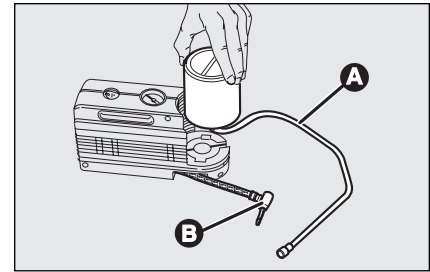

fig. 18
- disconnect connection **B-fig. 18**;